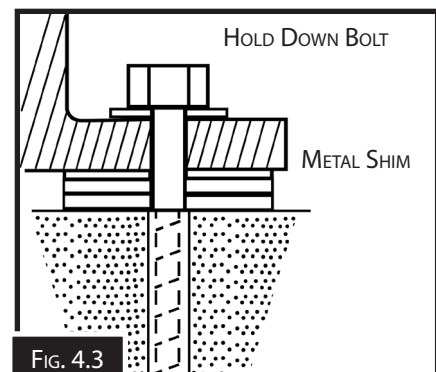

FIG. 4.3
After your machine has been anchored to a concrete slab floor, it then needs to be leveled. Loosen the hold down bolts and place a level on the surface of the working table. Metal shims need to be placed under corner of the base of the machine until level. Once level then tighten the hold down bolts. (Fig. 4.3).
**NOTE:** The machine must not rest on supports other than those defined in Fig. 4.3